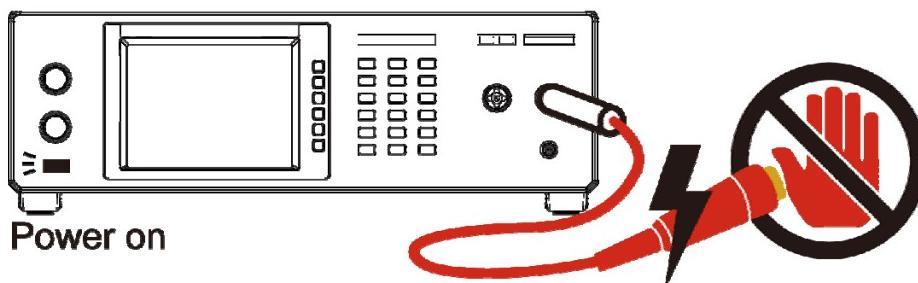

Figure 3-3 Don't touch here when outputs high voltage
* When the main unit is under test status, please don't touch alligator clip on test cable. Because the insulation of plastic layer is not enough, touch it may cause hazard as Figure 3-3 shown.